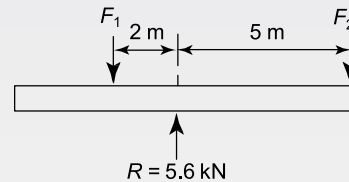

Figure RT2.1
8. Determine by resolution of forces the resultant of the following three coplanar forces acting at a point: 120 N acting at  $40^\circ$  to the horizontal; 250 N acting at  $145^\circ$  to the horizontal; 300 N acting at  $260^\circ$  to the horizontal. (8)
9. A moment of 18 N m is required to operate a lifting jack. Determine the effective length of the handle of the jack (in millimetres) if the force applied to it is (a) 90 N (b) 0.36 kN (6)
10. For the centrally supported uniform beam shown in Figure RT2.1, determine the values of forces  $F_1$  and  $F_2$  when the beam is in equilibrium. (7)